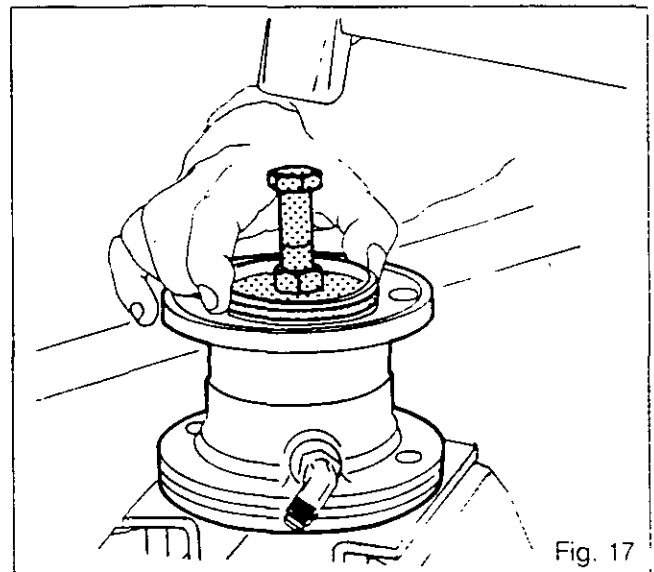

Fig. 17
28. Complete the assembly of the piston into the cylinder using the tool (Fig. 17).
29. Clean and refit the guide pin (24).